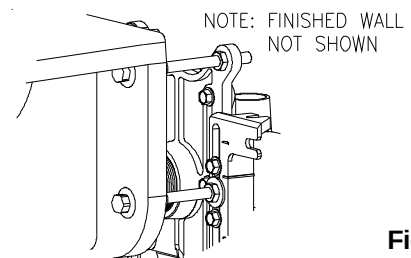

Fig. 21
19. Assemble a fiber washer and cap nut onto each rod and hand tighten. Secure closet with an additional half-turn using a wrench on each nut to complete the installation. See Fig. 21